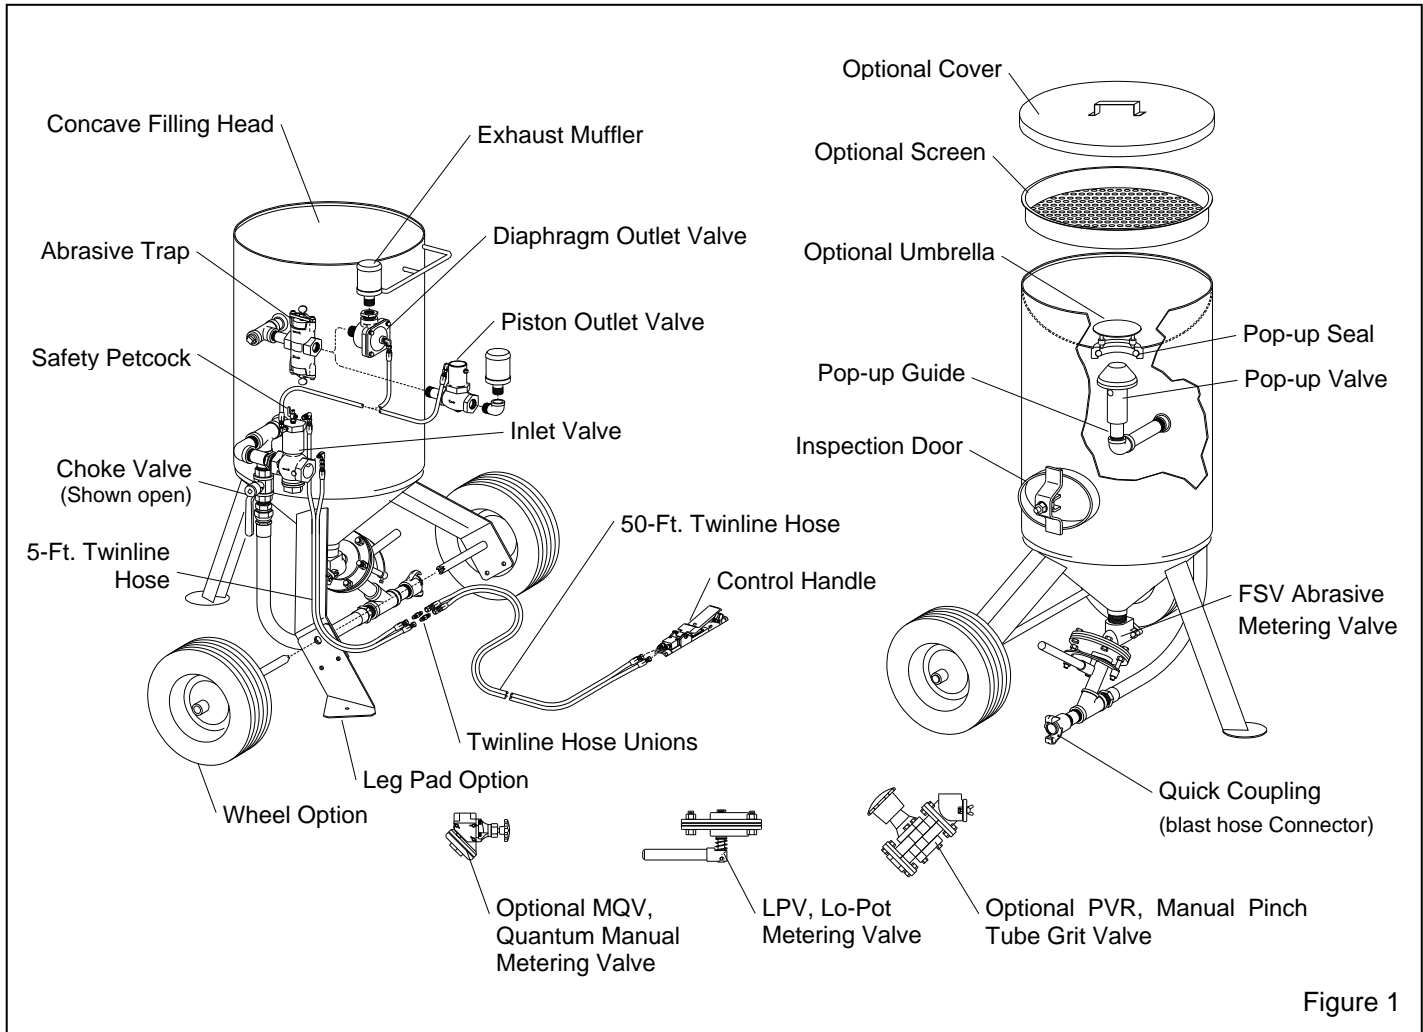
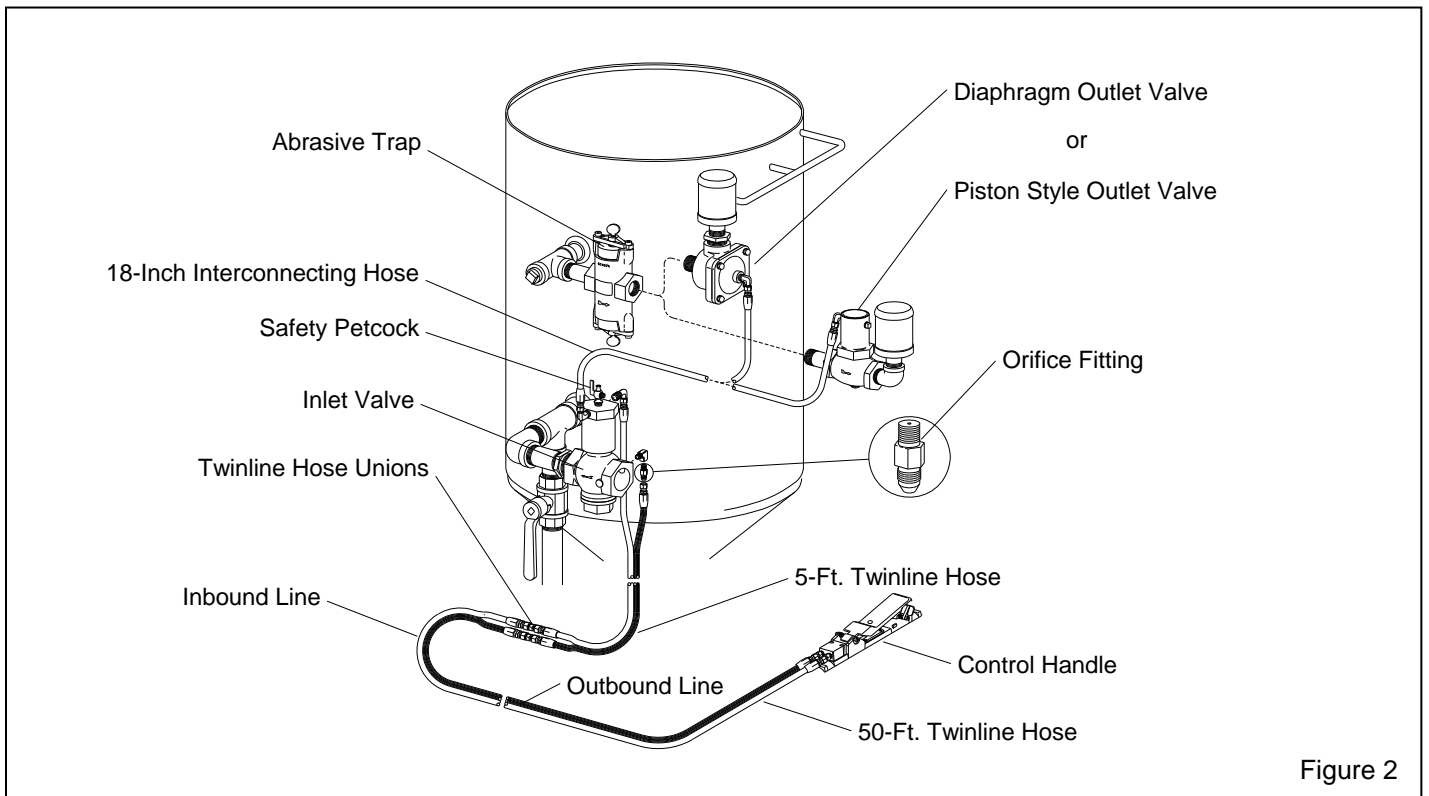
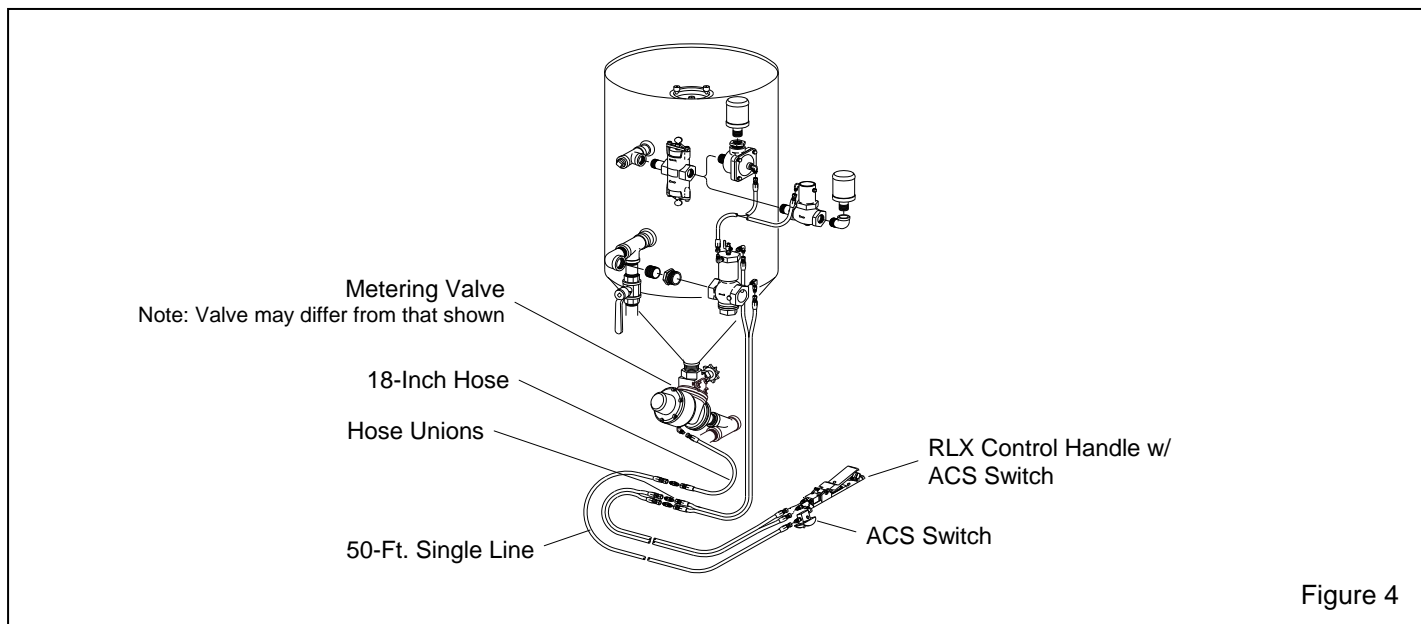

Figure 1
Figure 2
Figure 4
1.3.1.1 The primary components of the blast machine and the remote control system are shown in Figure 1. Additional components of the remote controls are shown in Figure 2. Additional parts used with optional ACS abrasive cut-off system are shown in Figure 4.
**1.3.3.3** The components of the remote control system are shown in Figures 1 and 2. They include the inlet valve, piston or diaphragm outlet valve (the piston valve is used in most applications, the diaphragm valve is recommended for use with fine mesh or aggressive abrasive), RLX control handle, 50-foot and 5-foot long twinline control hoses, 2 control hose unions, and an 18-inch long interconnecting hose.
**1.3.3.5** Clemco remote controls operate pneumatically on return air. Control air travels from the orifice on the inlet valve, down the outbound twinline (See Figure 2) and escapes through the opening located under the control handle lever. The normally-closed inlet valve remains closed, and the normally-open outlet valve remains open. As long as air escapes through the handle's opening, the remote control system remains inactive. When the lever is pressed, a rubber button seals the opening, and outbound air returns through the inbound line to open the inlet valve and close the outlet valve. This action pressurizes the blast machine and begins the blasting. Releasing the handle exhausts the control air, which causes the inlet valve to close, and the outlet valve to open to depressurize the blast machine and stop the blasting.
**1.3.4.2** Parts used with optional ACS systems are shown in Figure 4. ACS systems include a 50-foot single line hose, and additional 18-inch long interconnecting hose, an RLX control handle with ACS air switch assembly, and pneumatically operated metering valve. The metering valve supplied with the system may differ from the one shown. **NOTE:** A separate owner's manual is supplied with the valve.
Clemco supplies an exhaust muffler with all blast machines of 2 cu. ft. capacity and larger. The muffler reduces exhaust noise and prevents abrasive from exhausting upward or sideways into the air. When the blast machine is depressurized, the muffler body pops up to diffuse the air and abrasive. When the machine is fully depressurized, the muffler body drops, permitting trapped abrasive to empty. For the muffler to work properly, it must be installed with the body facing up, as shown in Figure 1.
**2.2.1** Attach the 5-foot twinline hose to the inlet valve as shown in Figure 2; one side connects to the unused upper elbow, the other to the orifice fitting. Either side can connect to either fitting.
**2.4 Set up for optional ACS Ref. Figure 4.**